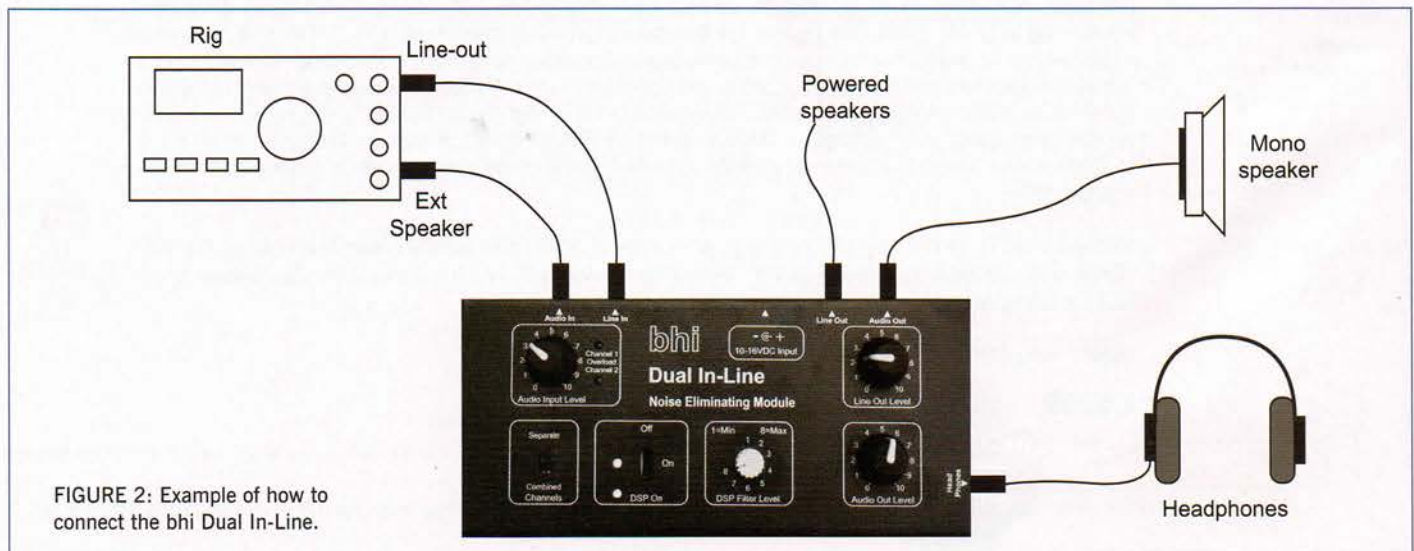

FIGURE 2: Example of how to connect the bhi Dual In-Line.
**CONNECTING UP.** The Dual In-Line is bristling with connections, see **Figure 2**, so let's look at how they should be used. There are two 3.5mm input jacks with the audio-in configured to accept a signal from the external speaker jack of your rig. As mentioned earlier, this is terminated with a low resistance load. Don't make the same mistake I did of connecting the line-out of your receiver to this jack or you will end up with very weak and distorted audio! The line-in jack is used for line level audio input from the line-out or record-out connections on your rig. The power connection is straightforward and well protected with wire ends to connect to the shack 12V supply. The use of a standard 2.1mm power jack means that you could easily power the Dual In-Line with a wall-wart or plug-top 12V DC supply. A 100mA unit will be fine if it's to be only used with headphones but if you're intending to drive an external speaker you will probably need a 500mA unit.